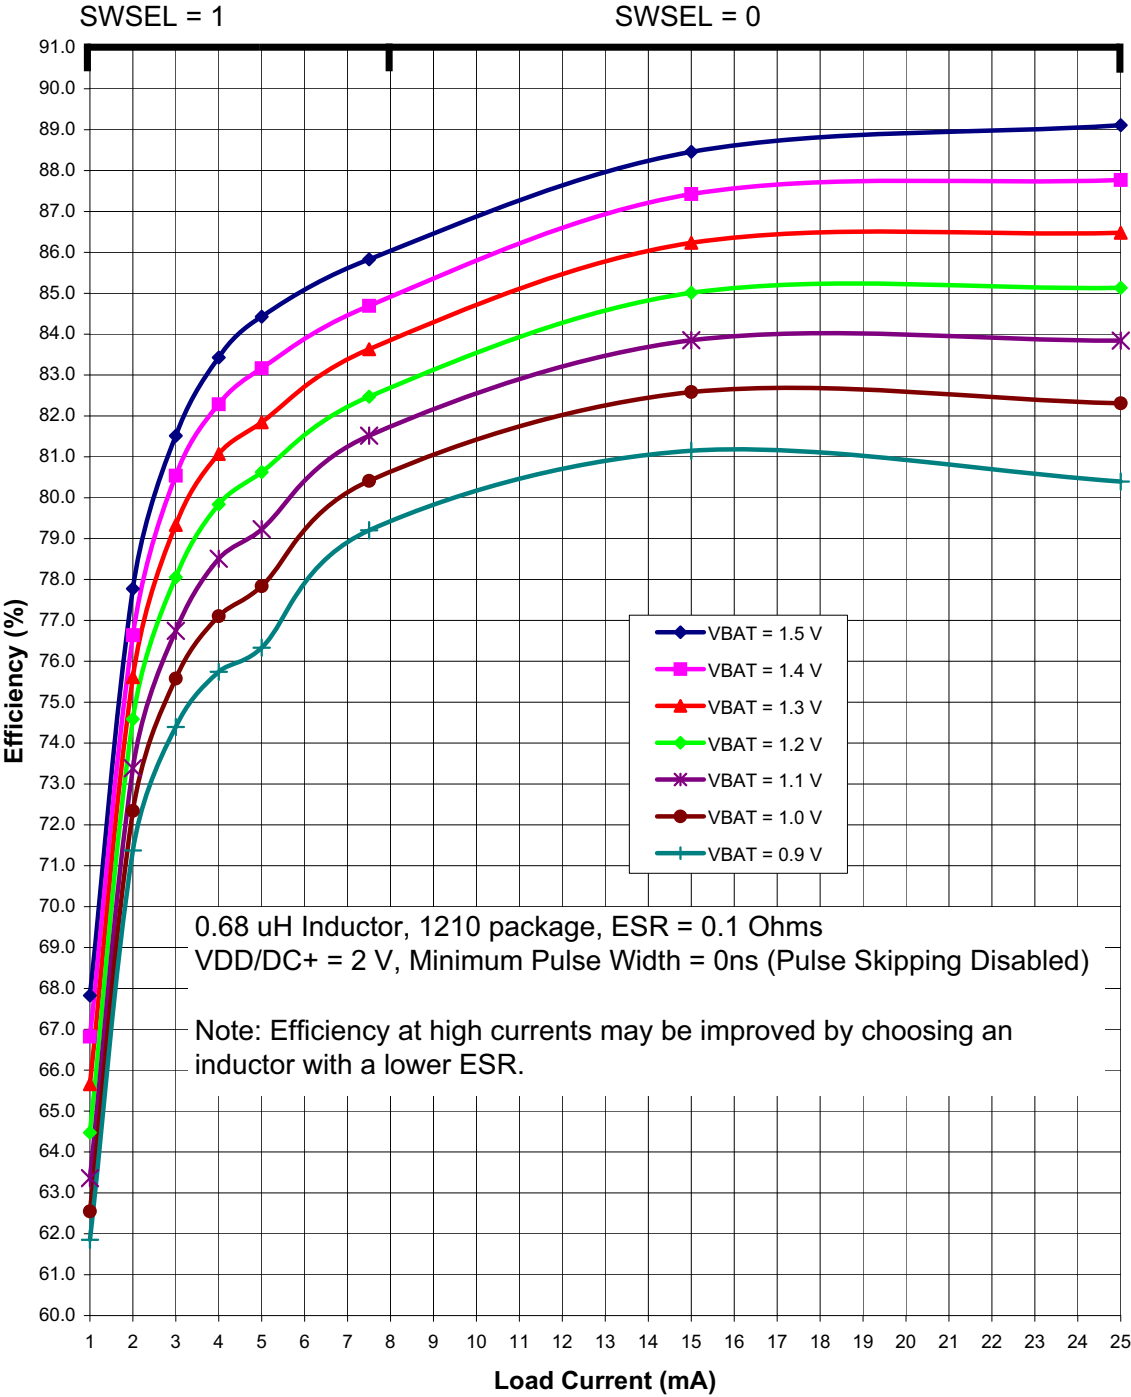
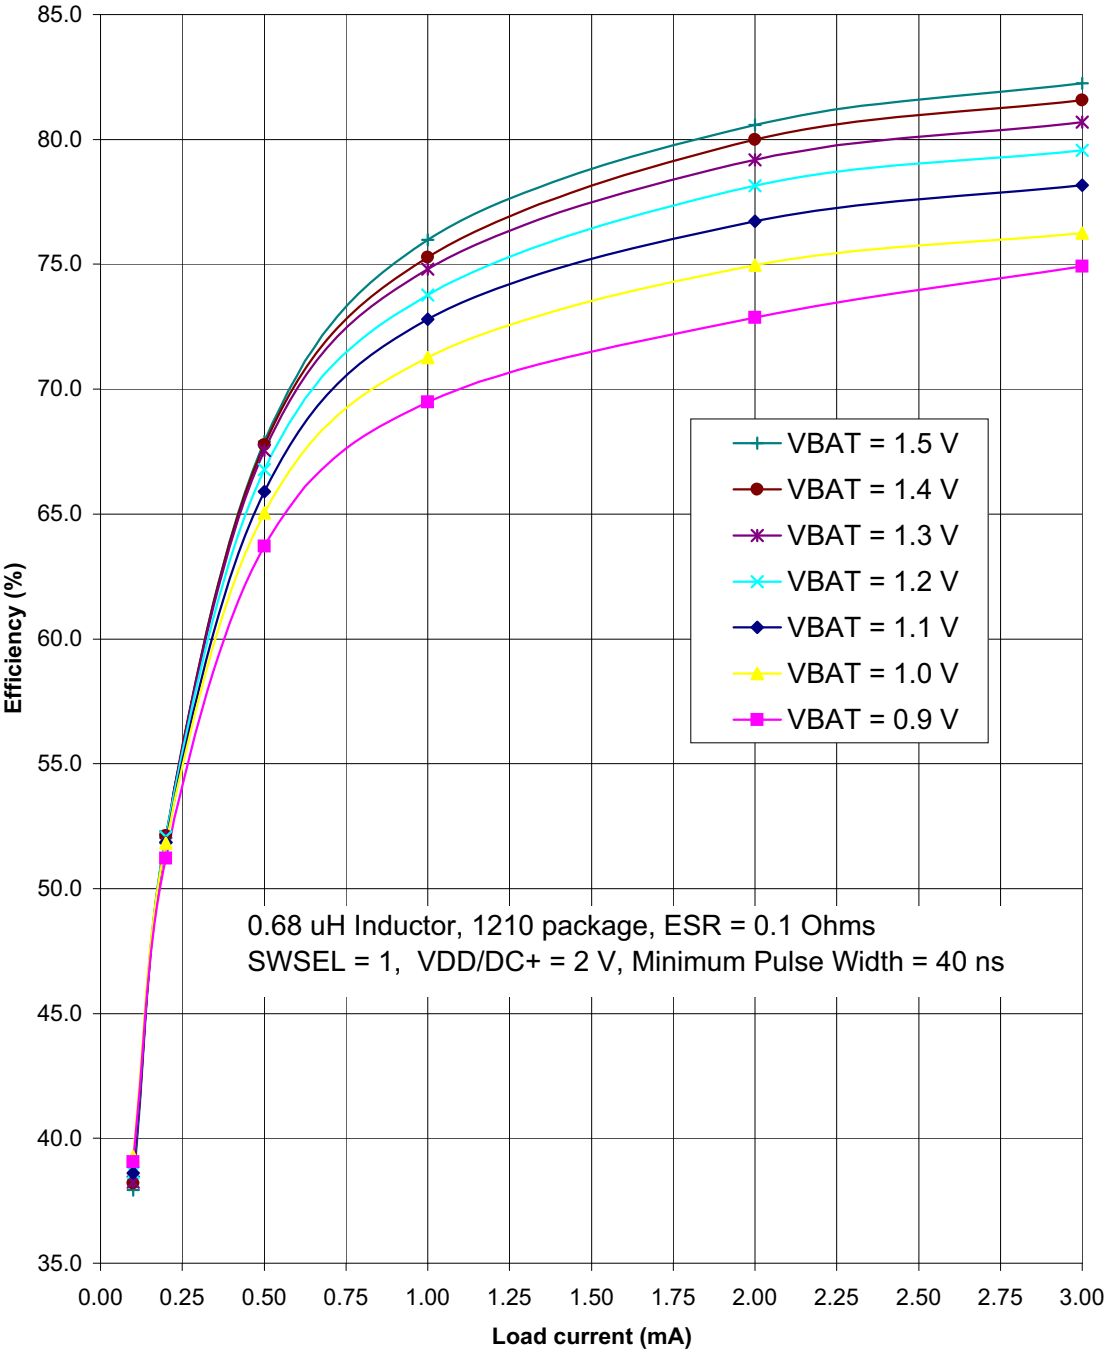

Figure 4.3. Typical DC-DC Converter Efficiency (High Current, VDD/DC+ = 2 V
Figure 4.5. Typical DC-DC Converter Efficiency (Low Current, VDD/DC+ = 2 V)
<ol style="list-style-type: none"> <li>Based on device characterization data; Not production tested.</li> <li>SYSCLK must be at least 32 kHz to enable debugging.</li> <li>Digital Supply Current depends upon the particular code being executed. The values in this table are obtained with the CPU executing an “sjmp \$” loop, which is the compiled form of a while(1) loop in C. One iteration requires 3 CPU clock cycles, and the flash memory is read on each cycle. The supply current will vary slightly based on the physical location of the sjmp instruction and the number of flash address lines that toggle as a result. In the worst case, current can increase by up to 30% if the sjmp loop straddles a 128-byte flash address boundary (e.g., 0x007F to 0x0080). Real-world code with larger loops and longer linear sequences will have few transitions across the 128-byte address boundaries.</li> <li>Includes oscillator and regulator supply current.</li> <li>IDD can be estimated for frequencies <math>\leq 10</math> MHz by simply multiplying the frequency of interest by the frequency sensitivity number for that range, then adding an offset of 90 <math>\mu</math>A. When using these numbers to estimate <math>I_{DD}</math> for <math>&gt;10</math> MHz, the estimate should be the current at 25 MHz minus the difference in current indicated by the frequency sensitivity number. For example: <math>V_{DD} = 3.0</math> V; <math>F = 20</math> MHz, <math>I_{DD} = 4.1</math> mA – <math>(25 \text{ MHz} - 20 \text{ MHz}) \times 0.120 \text{ mA/MHz} = 3.5</math> mA.</li> <li>The Supply Voltage is the voltage at the VDD_MCU pin, typically 1.8 to 3.6 V (default = 1.9 V). Idle IDD can be estimated by taking the current at 25 MHz minus the difference in current indicated by the frequency sensitivity number. For example: <math>V_{DD} = 3.0</math> V; <math>F = 5</math> MHz, Idle <math>I_{DD} = 2.5</math> mA – <math>(25 \text{ MHz} - 5 \text{ MHz}) \times 0.095 \text{ mA/MHz} = 0.6</math> mA.</li> <li>The supply current specifications in Table 4.2 are for two cell mode. The VBAT current in one-cell mode can be estimated using the following equation:  <math display="block">\text{VBAT Current (one-cell mode)} = \frac{\text{Supply Voltage} \times \text{Supply Current (two-cell mode)}}{\text{DC-DC Converter Efficiency} \times \text{VBAT Voltage}}</math> <p>The VBAT Voltage is the voltage at the VBAT pin, typically 0.9 to 1.8 V.            The Supply Current (two-cell mode) is the data sheet specification for supply current.            The Supply Voltage is the voltage at the VDD/DC+ pin, typically 1.8 to 3.3 V (default = 1.9 V).            The DC-DC Converter Efficiency can be estimated using Figure 4.3–Figure 4.5.</p> </li> <li>The radio peripheral is placed in Shutdown mode.</li> </ol>